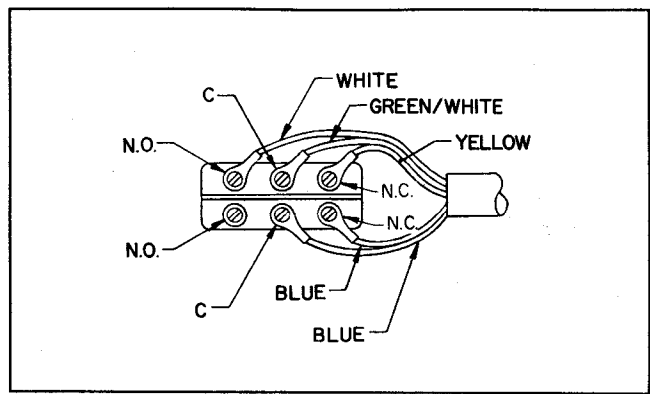

Figure 3
7. Connect new wire harness to micro switch terminals as shown in fig. 3.